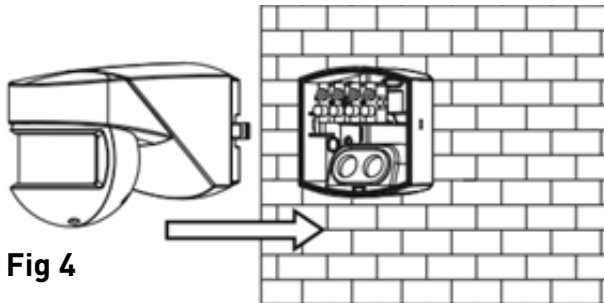

Fig 4
- Push the sensor head back onto the base until secured into position (see Fig 4)